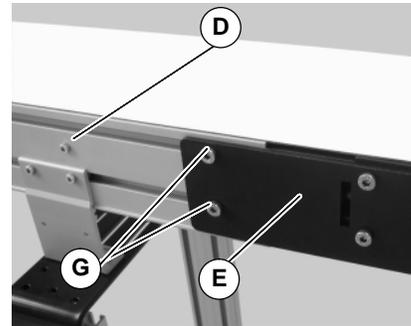
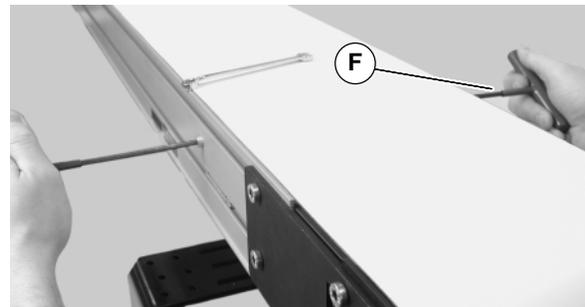

Figure 8
Figure 9
- On tension end of the conveyor, identified by the pinion locking screw (D of Figure 8), loosen the two tail clamp bolts(G), on both sides of conveyor.
- With 5mm hex wrench, hold pinion torque screw (F of Figure 9). Loosen the pinion locking screw (D of Figure 8) and turn the pinion torque screw(F) to extend head plate assembly.
11. After adjusting proper tensioning, tighten the pinion locking screw (D of Figure 8) to 69 in-lbs (7.8 N-m), and tighten tail clamp bolts (G of Figure 8) on both sides of conveyor to 146 in-lb (16.5 N-m).